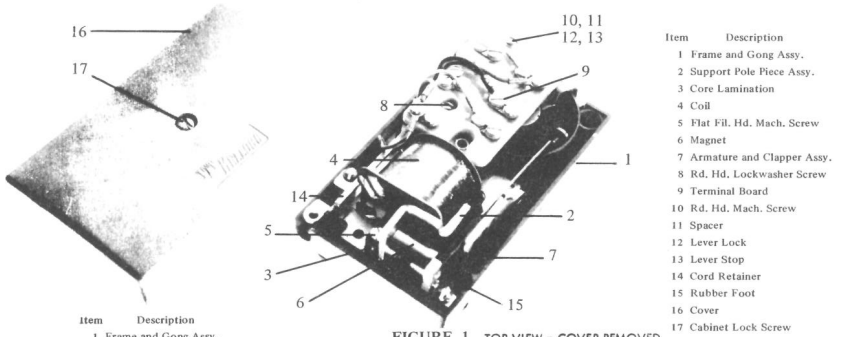
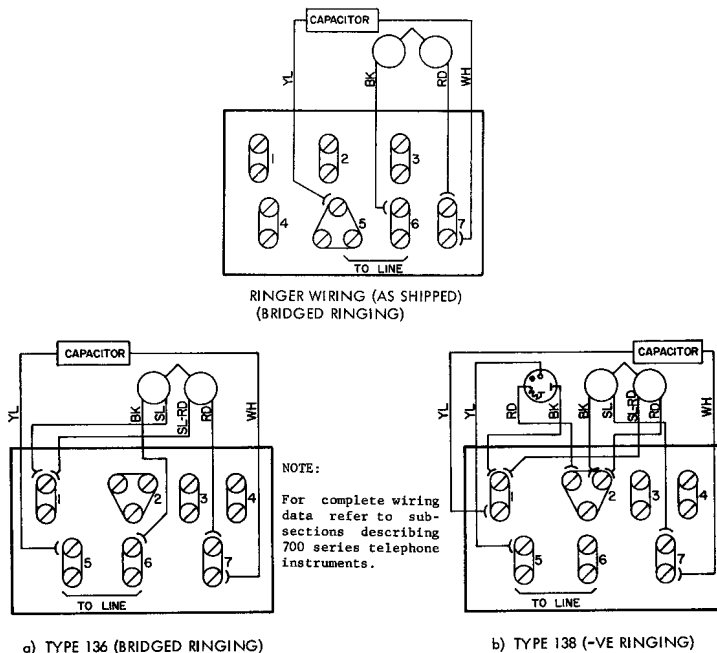

FIGURE 1 TOP VIEW - COVER REMOVED
FIGURE 3 RINGER WIRING (AS SHIPPED)
1.02 The 136 compact ringer is a double wound coil, single gong, straight line, biased type of unit equipped with a mechanical volume control and assembled on a die-cast metal base with a molded plastic cover. (See Figure 1) The 138 ringer is identical except for the addition of a gas tube and the use of a large cover. In combination with the type 137 frequency selective ringer these units provide a complete range which meet the requirements of every need for a compact telephone line main or extension ringer. Screw terminals are provided for all lead connections. (See Figure 3) The base casting is fitted with four shock absorbing rubber feet through which the mounting screws are inserted.